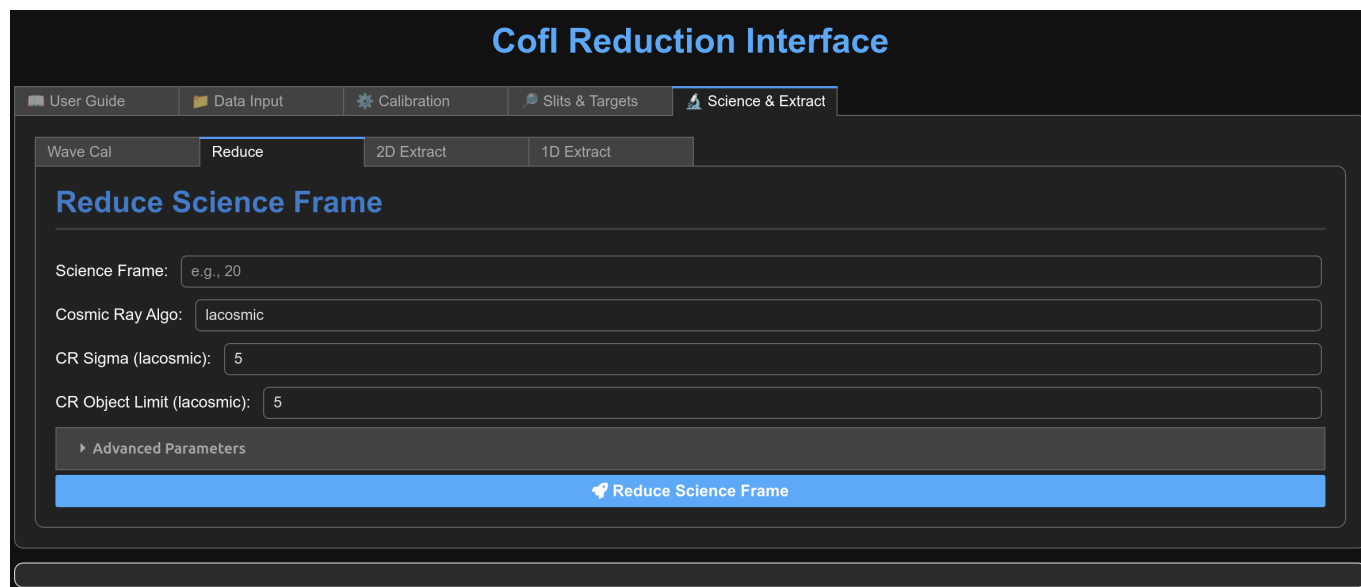

Figure 18: Science reduction
- **Purpose:** To apply all instrumental corrections to the raw science image. You can fine-tune cosmic ray rejection by adjusting the `crsig` and `objlim` parameters (Figure 18). Always visually inspect the output image to verify the changes you've made.